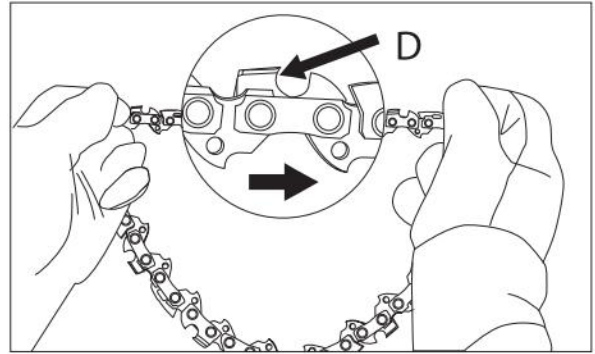

Fig. 7
5. Spread the chain in a circle with the cutting edges (D) aligned with the markings on the guide bar (fig. 7).